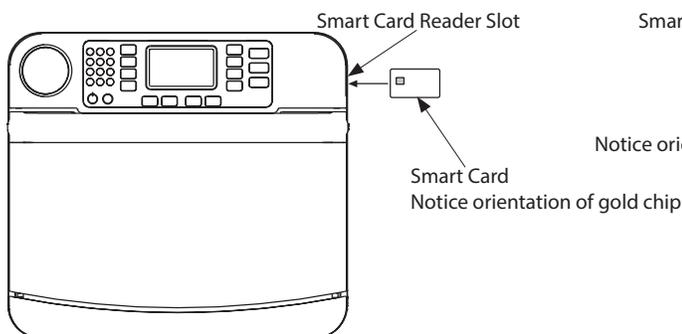

Figure 12: Inserting Smart Card - Encore
1. Insert the gray smart card marked “1 of 3” (Figures 12 and 13).